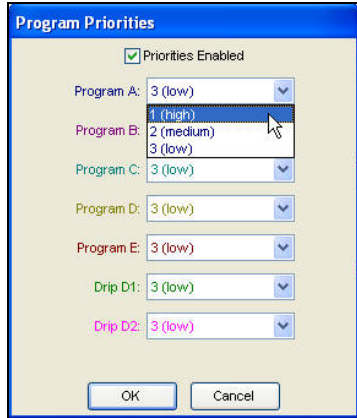

Figure 16.1.22D
18. By using the drop down arrow to the right you can choose a level of priority for each program listed (Figure 16.1.22D).